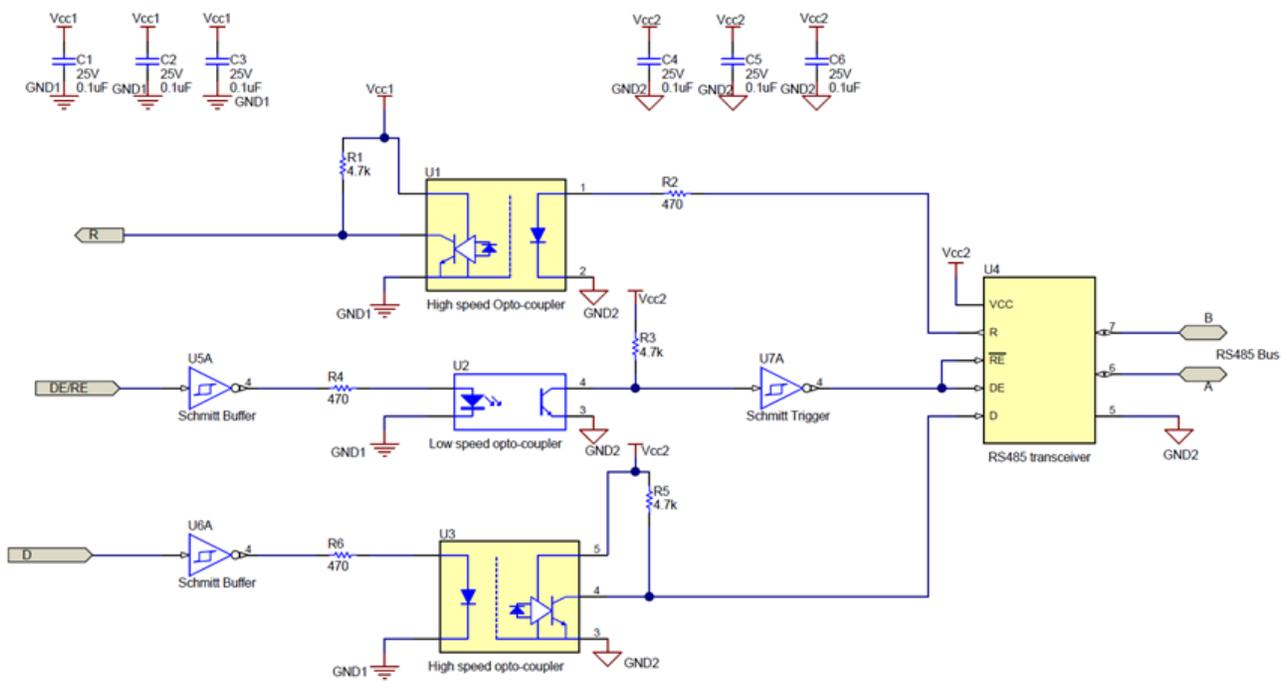
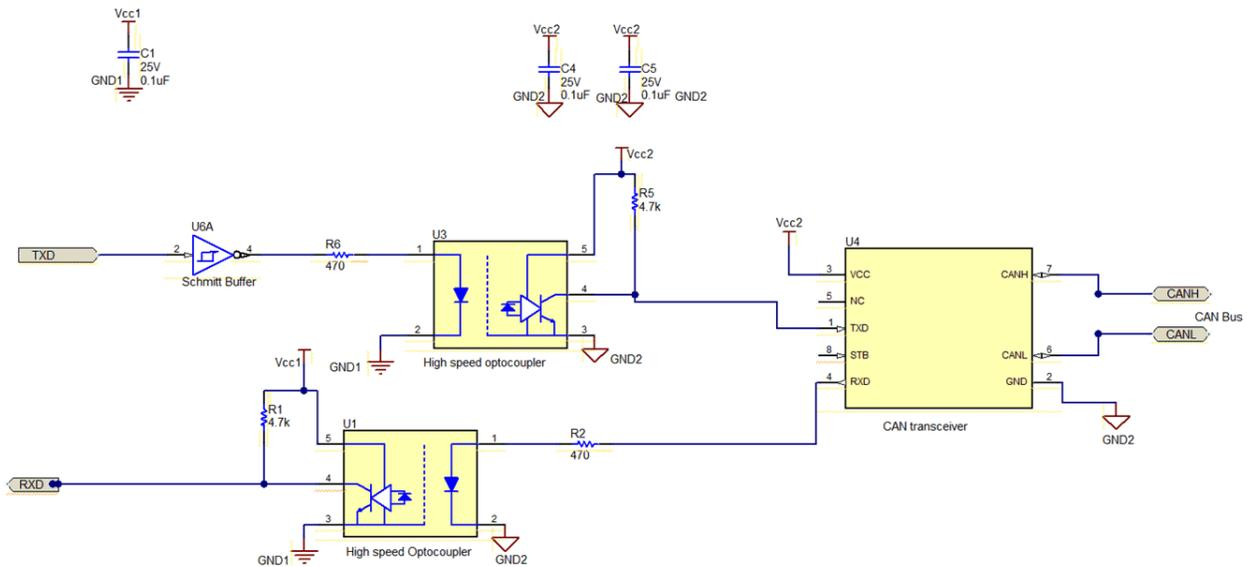

Figure 1. An Isolated RS-485 Design Using Optocouplers
Figure 2. An Isolated CAN Design Using Optocouplers
Figure 1 and Figure 2 show typical circuits for isolating an RS-485 and CAN transceiver using optocouplers to achieve galvanic isolation. For an isolated RS-485 solution, three optocouplers are required, two high-speed and one low-speed, along with additional Schmitt buffers for stronger drive to the optocoupler LED and to clean up any noise on low-speed optocoupler transistor output transition, biasing resistors, and bypass capacitors. For the isolated CAN solution, two high-speed optocouplers are required along with a Schmitt buffer, resistors and bypass capacitors. All of these components can add up both in cost and board area.
- Reliability.** Optocouplers will typically use epoxy as their dielectric; epoxy will break down at lower voltages compared to other common dielectrics, shown in Figure 2. Assembly inconsistencies and LED degradation will also cause device-to-device variations in terms of isolation reliability and lifetime.
To meet the growing need for compact solutions without compromising performance, TI has created the ISO1500 isolated RS-485 transceiver and the ISO1044 isolated CAN transceiver. Figure 4 compares the solution size of the optocoupler solution shown in Figure 1, an industry-standard 16-pin small-outline integrated circuit (SOIC) isolated RS-485 transceiver and the ISO1500. Note that these designs only show the signal isolation of the RS-485 transceiver. The application note, "How to Isolate Signal and Power for an RS-485 System", provides a helpful overview for isolating power in RS-485 systems.